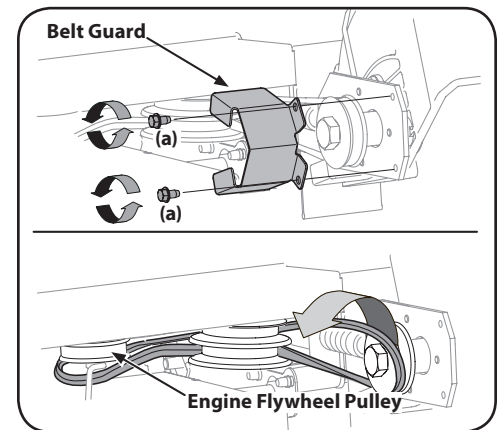

Figure 6-4
3. Remove the spindle sheaves belt guard by removing the two self-tapping screws (a) which secure it to the blade plate assembly. See Figure 6-4.
4. Carefully remove the belt from off of the pulleys, again making sure to note the orientation of the belt. Discard the belt. See Figure 6-4.
NOTE: Make certain that the "V" side of the belt is seated into the top pulley and the flat side of the belt is seated into the bottom pulley. See Figure 6-4.